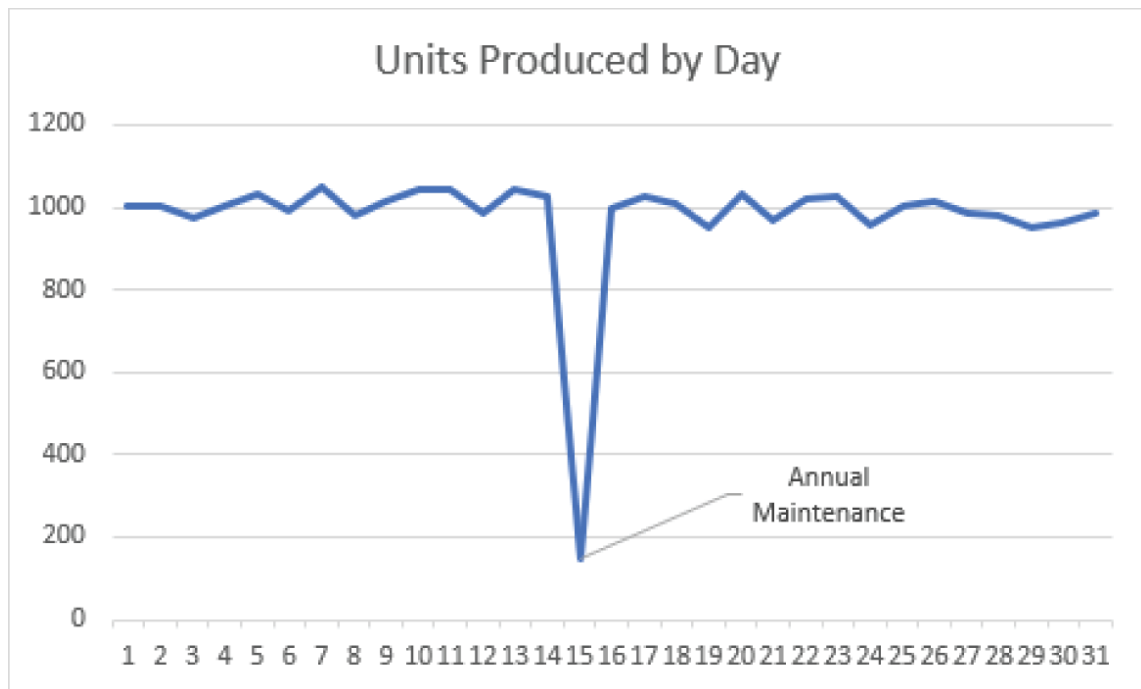

Figure 1.37: Data labels can be used to highlight unusual variations.
- **Data labels:** If every data point has a data label, then you've created a table of data that's hard to read. Use data labels to highlight important data points, like the minimum or maximum value. Data labels can also be used to explain unexpected values. Figure 1.37 shows a chart that uses a data label to explain an unusual dip in the output for a manufacturing plant.